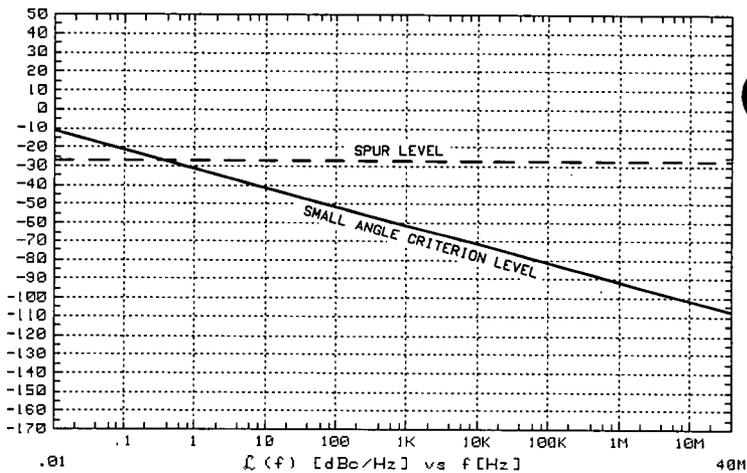

Figure 3-46. Graph of Small Angle Line and Spur Limit
7. Compare the average noise level at the PLL bandwidth offset to the small angle criterion level shown on the graph in Figure 3-46. The average noise level of the signal must remain below the small angle line at all offset frequencies beyond the PLL bandwidth. (The small angle line applies only to the level of the average noise. Spur levels that exceed the small angle line will not degrade measurement accuracy provided they do not exceed -40 dBc.)